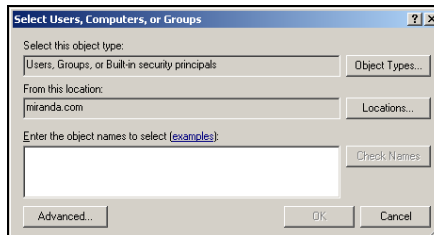

Figure 19-36. Specify the user's name to grant them administrative privileges
4. Click the **ADD** button and the **SELECT USERS, COMPUTERS, OR GROUPS** dialog box appears (figure 19-36).